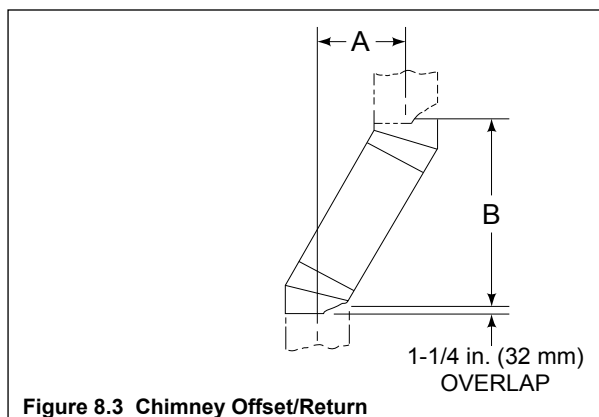

Figure 8.3 Chimney Offset/Return
- **MEASURE THE SHIFT NEEDED TO AVOID THE OVERHEAD OBSTRUCTION. Refer to dimension A in Figure 8.3.**
Your "A" dimension from Figure 8.3 is 14 1/2 in. (368 mm). Using Table 8.2 the dimension closest to, but not less than 14 1/2 in. (368 mm) is 14 1/2 in. (368 mm) using a 30° offset/return.